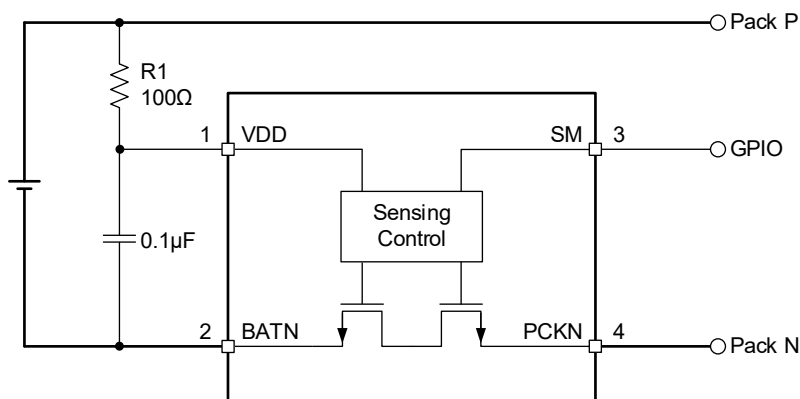

Figure 1. Typical Battery Pack Circuit
4. Tested with the circuit in Figure 1 and by applying a 4.5V, 5A power source to the Pack P and BATN for battery emulation. Short the Pack P and Pack N with a short wire (< 10mΩ).